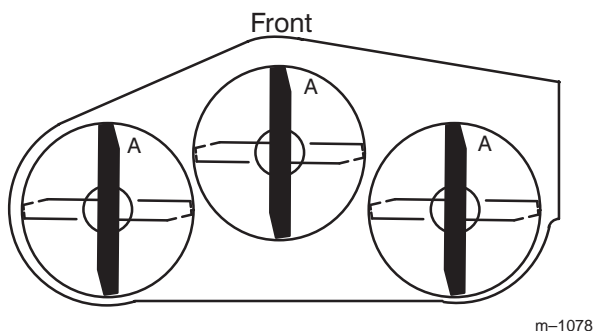
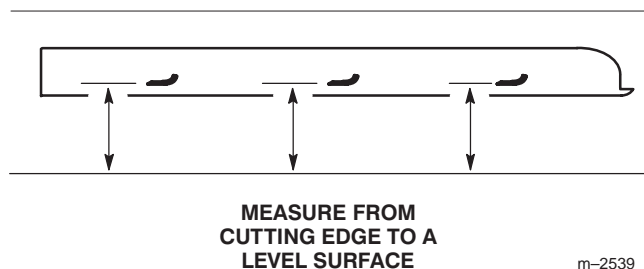

Figure 42
Figure 43
1. Rotate the blades until the ends face forward and backward (Fig. 42). Measure from a level surface to the cutting edge, position A, of the blades (Fig. 43). Note this dimension.